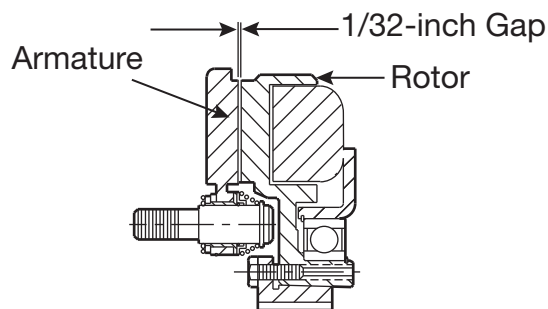

Figure 10
5. If the armature has been secured to the shaft first, adjust the rotor's position to allow a $1/32$ -inch gap between the two faces. (See Figure 10.)
2. If the field-and-rotor assembly has been secured to the shaft or a machine member first, then adjust the armature's position to allow approximately 1/32-inch between the two faces. (Figure 10)